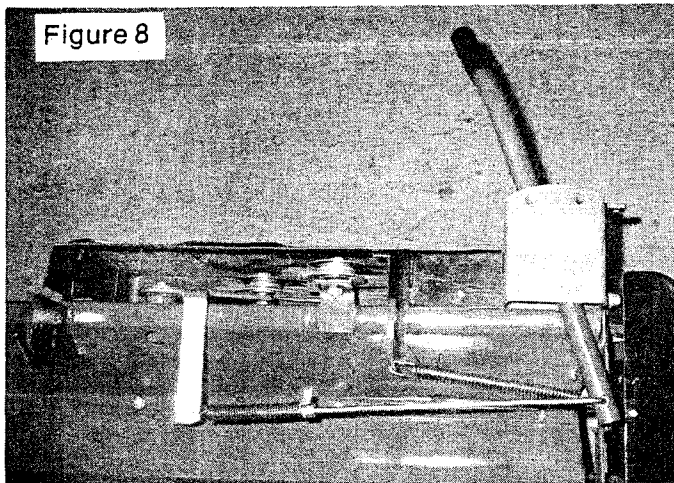

Figure 8
2. **CLUTCHING:** Sweeper can be engaged or disengaged from operator's position on tractor. Grasp clutch handle to left of operator, push to rear of sweeper and move handle to right to engage brush or left to disengage. See Figures 8 and 9.